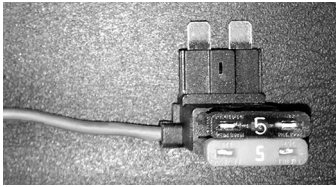

FIG. 82
- Attach an ATM fuse splice connector to the power wire of the controller (FIG. 82) using the wiring procedure described in Steps 18-5 on pages 40 and 38. Install a 5 Amp fuse.